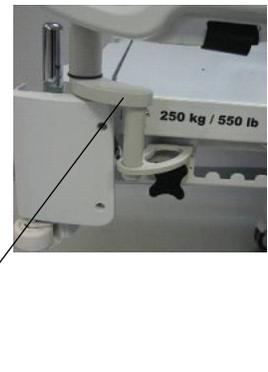

Figure 80: Installing the tray support
4. Install the tray support pole into the bracket (F) and into the socket at the head end or foot end of the product (Figure 80 on page 81).